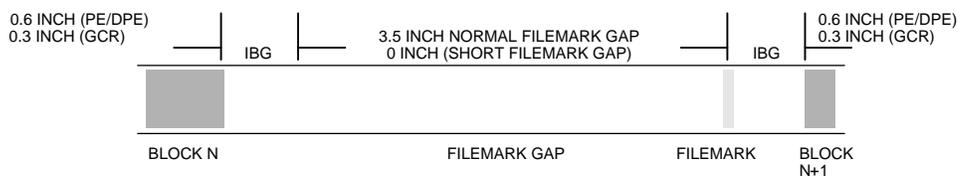

Figure 4-2 Filemark Gaps
- **SHORT** - The filemark gap itself is zero, allowing more efficient tape use. See Figure 4-2.